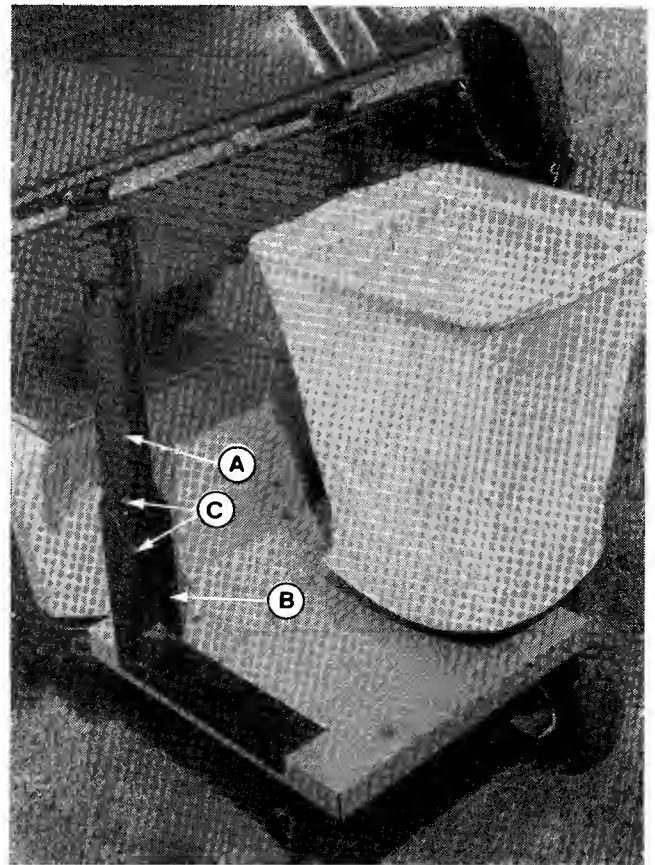

Figure 8.
9. Attach the two upper braces (A, figure 8) to the bracket (B) with four 5/16-18 x 7/8" capscrews, 5/16" lockwashers and nuts (C).